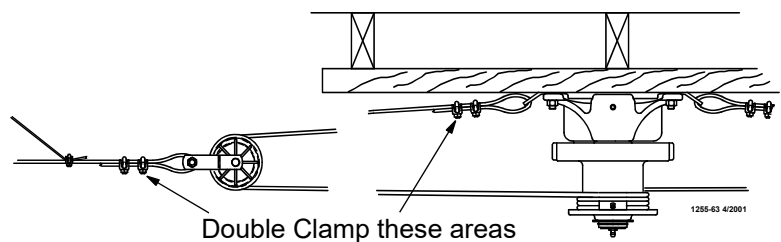

Figure 7. Double back arrangement for feed lines over 350' [107 m]
- Extend the 3/16" [5 mm] Main Winch Cable the full length of the feeder line. Attach the cable temporarily to the ceiling with nails, staples, or some type of fasteners. **Figure 7.** shows a double back arrangement.